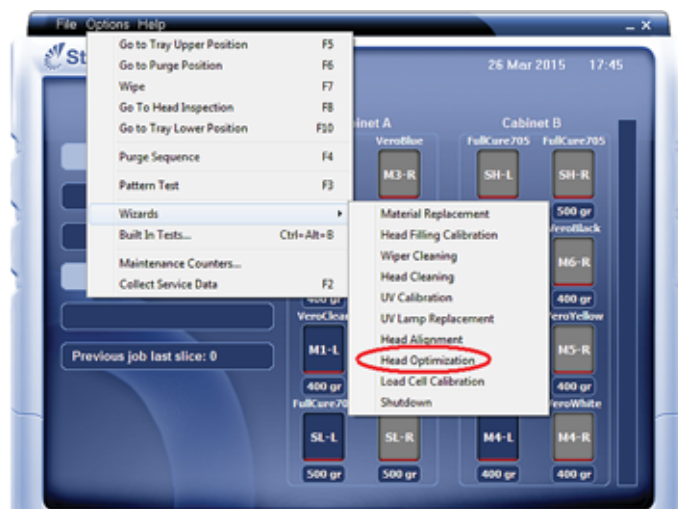

Figure 6-48: Starting the Head Optimization wizard
2. Start the Head Optimization wizard from the *Options* menu (see figure 6-48 on page 36).